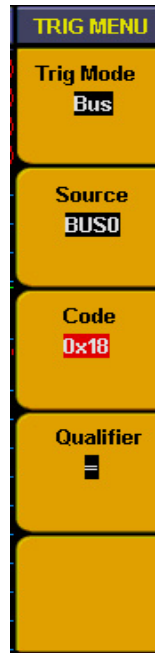

Fig.5-56: Bus trigger menu
2. **BUS trigger**: set BUS as trigger source and make data on BUS as the trigger condition to make trigger. BUS trigger menu refer to Fig.5-56